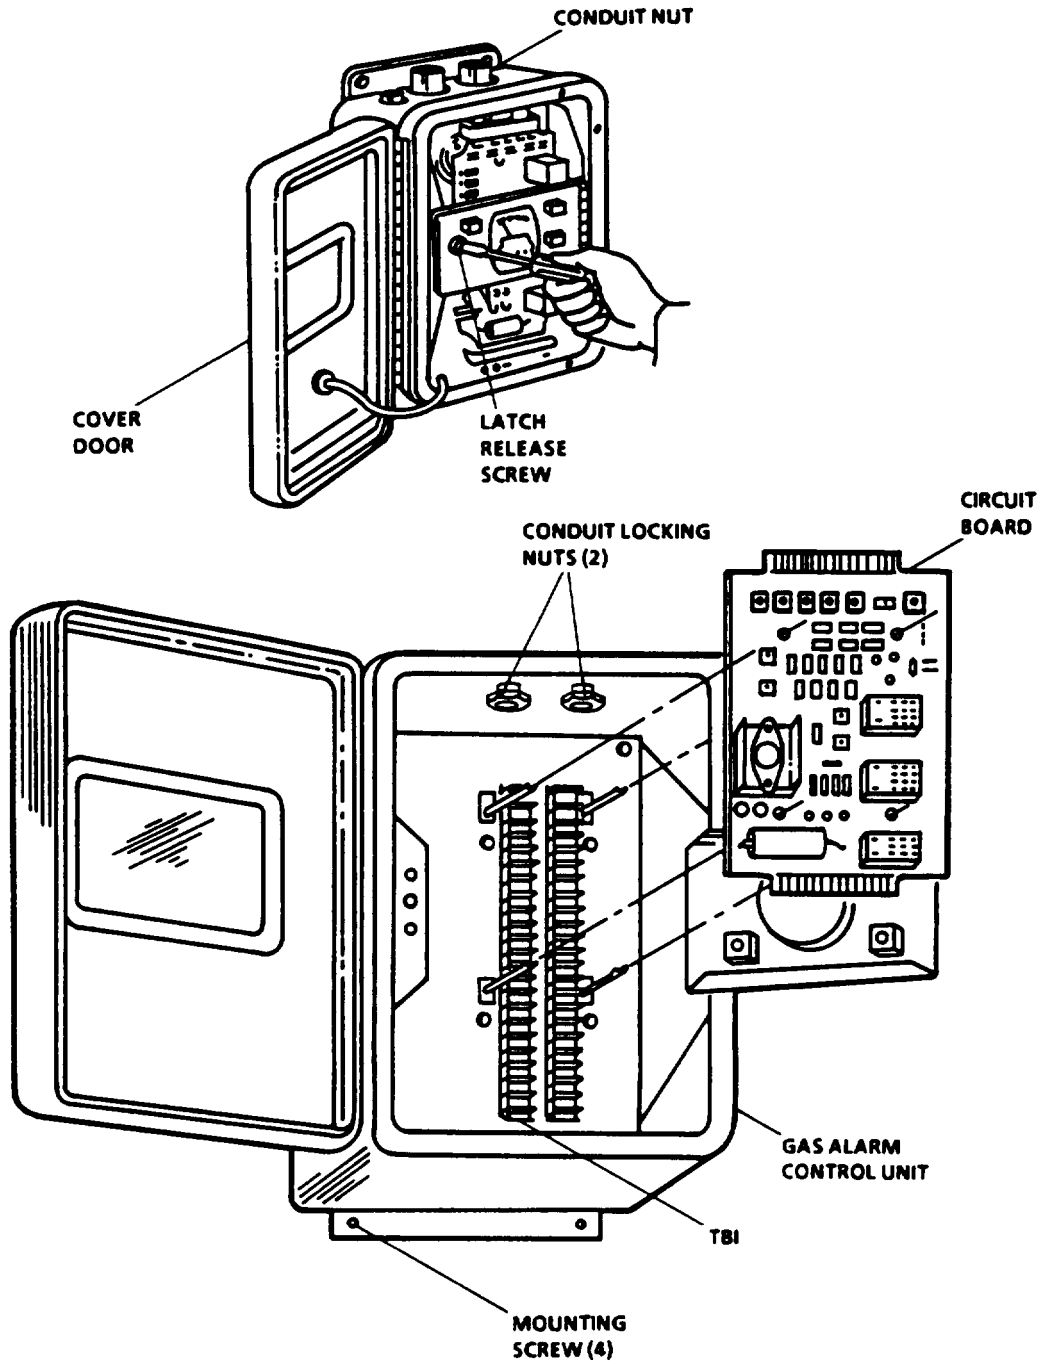

Figure 4-20. Gas Alarm Alarm Control Unit
1. Install gas alarm control unit. See figure 4-20.